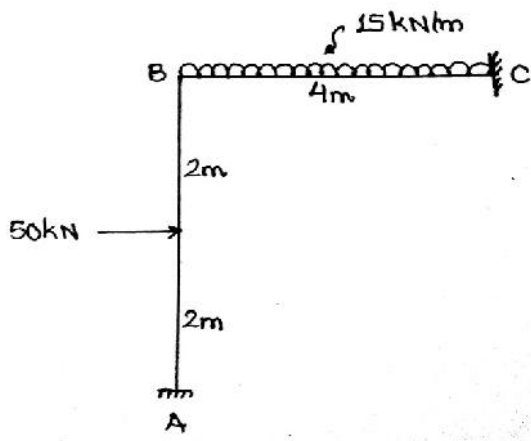

Figure 1
**Q.1** A) Obtain global member stiffness matrix for member AB of a rigid frame shown in the **Figure 1**. (05)